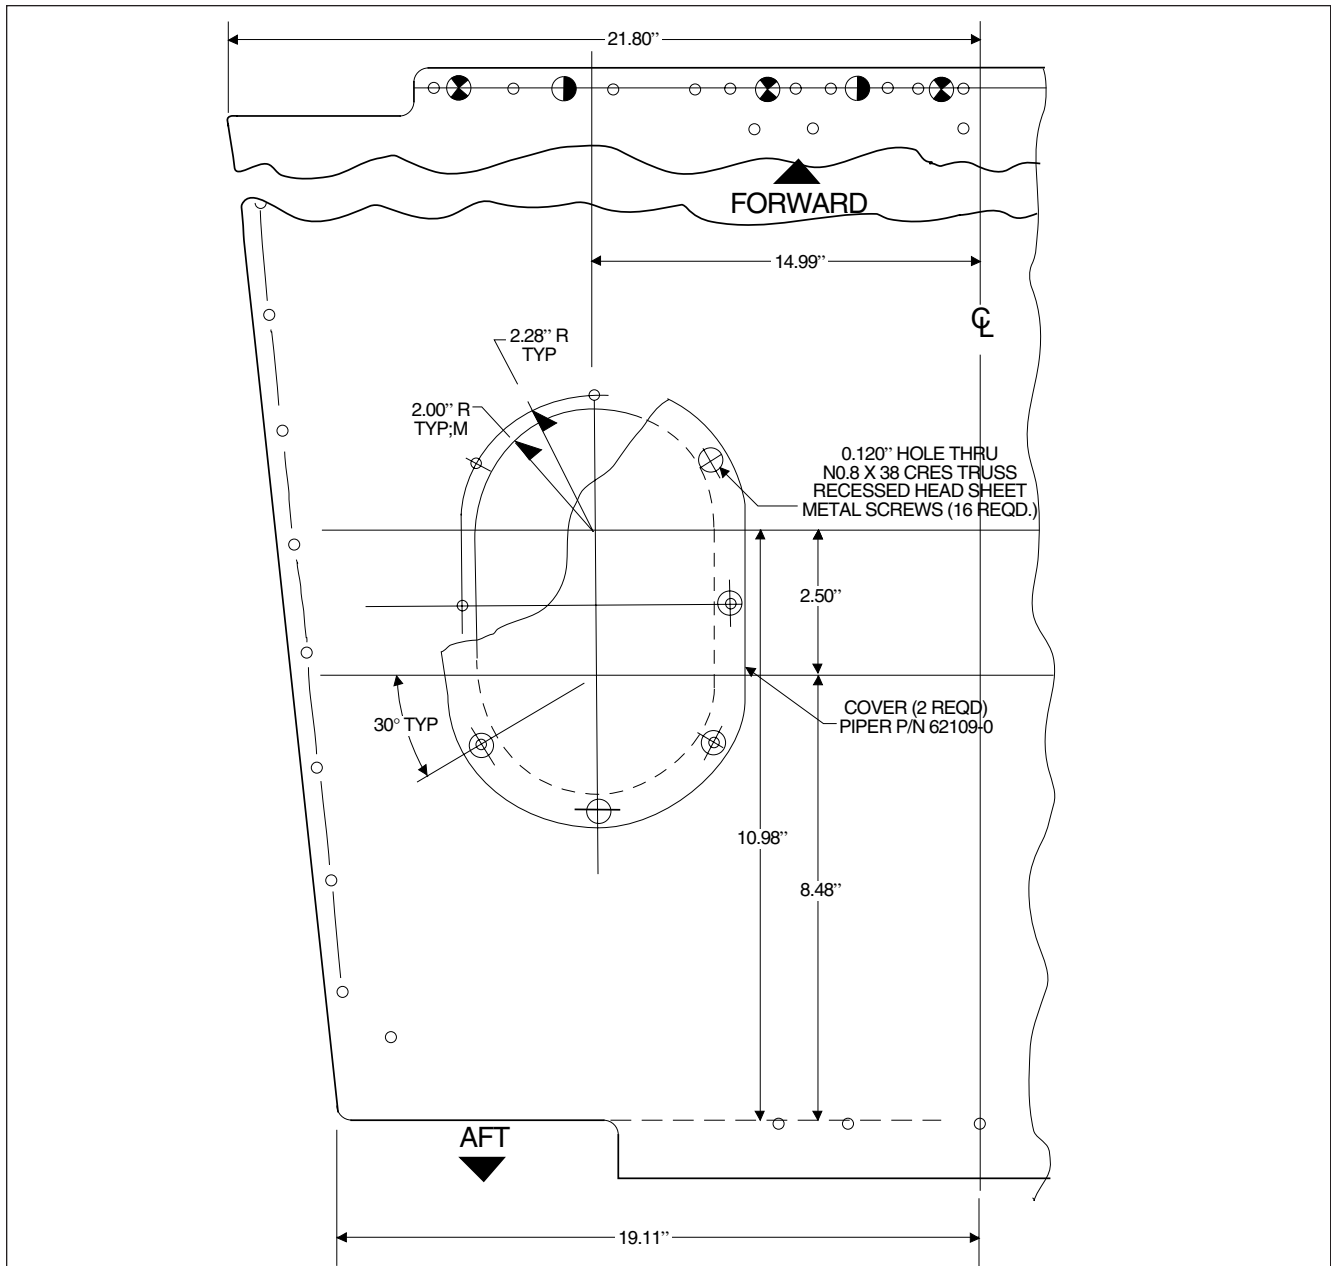

Figure 4-8a. Baggage Compartment Inspection Holes Cutout Details
b. Baggage Compartment Inspection Holes Fabrication Procedure. (Refer to Figure 4-8a.)
While Figure 4-8a shows the hole in the left side of the baggage compartment, a similar hole is also cut out in the right side baggage compartment floor. Installation will require two each inspection access covers, Piper P/N 62109-00.
- (1) Right side baggage compartment Royalite plastic close out panel.
- (2) Rear close out panel.
- (3) Carpeting from baggage compartment floor.
- (c) Determine and mark a reference center line running through baggage compartment. Refer to Figure 4-8a for measurements.
- (i) There should now be two ovals, like the one in Figure 4-8a, laid out on each side of the baggage compartment floor.